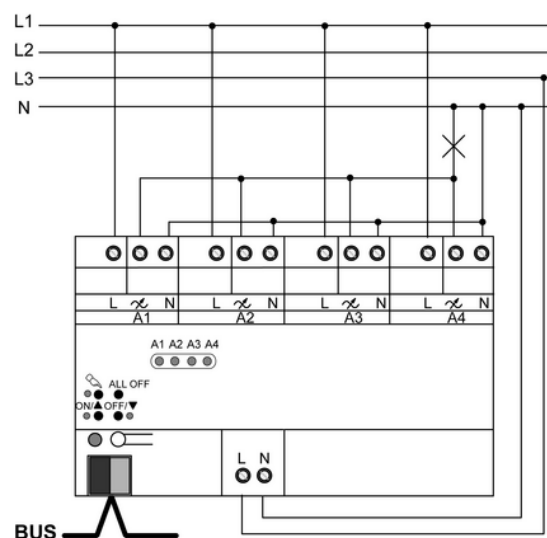

Figure 5: Parallel switching of dimmer outputs – connection example
- Connect device as shown in the connection example (figure 5).